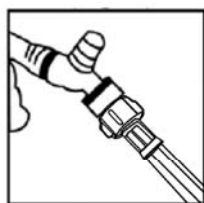
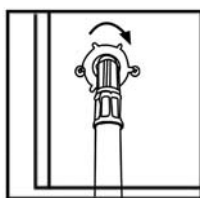
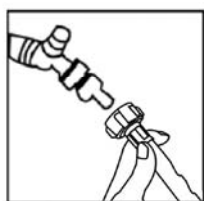

Fig.1
Fig.2
Fig.3
- a. Water line supply - Use the water hose(16) to connect to your household water supply(Fig. 1). If assistance is required, please contact a certified plumber. Connect the water hose connector to any water faucet. Place the other end of the water hose into the water line plug(11) (Fig. 2). To disconnect the water hose connector from the water spigot, first make sure the water line is turned off, then simply pull back the release washer of the connector and pull apart (Fig. 3). To release the water line from the unit, simply unscrew the water hose on water line plug and pull the hose out (Fig.4)